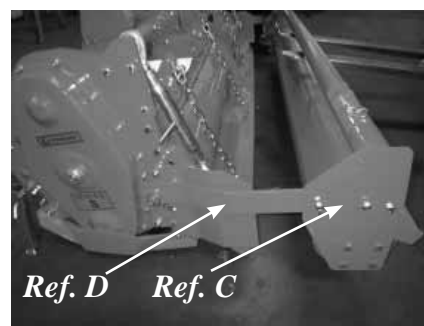

Fig. 4
- STEP 4 -** Mount roller frame (*Ref. C - Fig. 4*) to roller arms (*Ref. D - Fig. 4*).